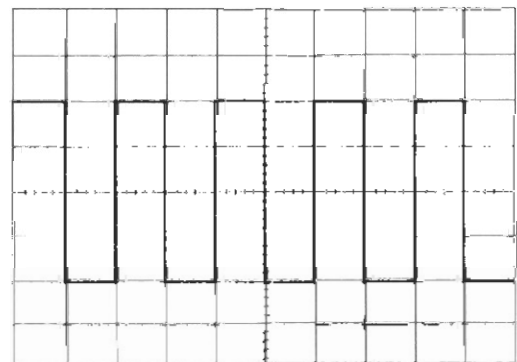

Figure 4-3
- (1) Engage the POWER switch and make sure that the power LED is turned on. In about 20 seconds, a trace will appear on the CRT screen. If no trace appears in about 60 seconds, counter check the switch and control setting.
- (2) Adjust the trace to an appropriate brightness and image with the INTEN control and FOCUS control respectively.
- (3) Align the trace with the horizontal center line of the graticule by adjusting the CH1 POSITION control and TRACE ROTATION control (adjustable by screwdriver).
- (4) Connect the probe to the CH1 INPUT terminal and apply the 2 VP-P CALIBRATOR signal to the probe tip.
- (5) Set the AC-DC-GND switch to the AC state. A waveform as shown in the figure 4-3 will be displayed on the CRT screen
- (6) Adjust the FOCUS control so that the trace image appears sharply.
- (7) For signal viewing, set the VOLTS/DIV switch and TIME/DIV switch in appropriate positions so that signal waveform is displayed clearly.